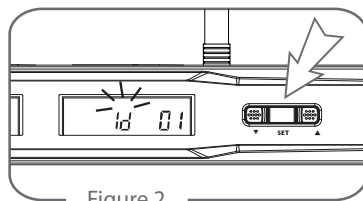

Figure 2
- (1) Press "Set" button ❹ for 3 seconds, LCD Panel will start flashing.
- (2) Press "Set" twice to enter "ID Code" setting window. (Figure 2)
- (3) Press "▲Up" ❷ or "▼Down" ❸ button to select a distinct ID code from "id 0" to "id 99"
- (4) After setting, press "Set" again to save the settings.